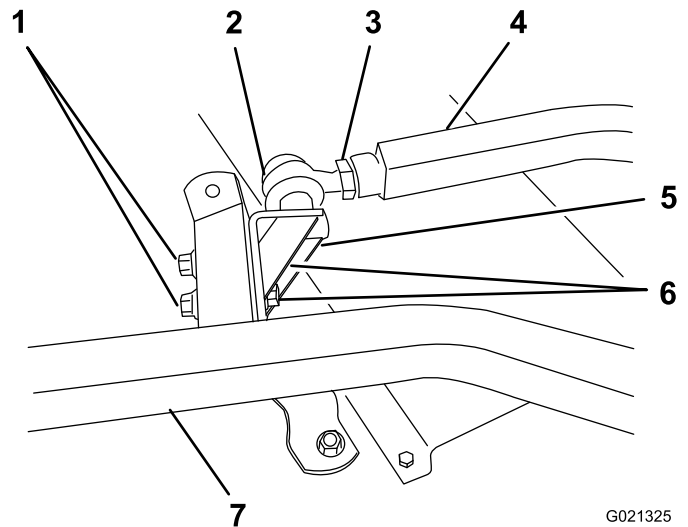

Figure 23
6. Have another person push down on the left push arm while you remove the capscrows, flat washers, and locknuts securing the ball joint mount to the castor arm on the cutting unit (Figure 23). Now the helper can carefully allow the push arm to move upward, which will gradually release the 68 kg (150 pounds) of spring load
5. Have another person carefully push down on the left push arm until the holes in the ball joint mount line up with the holes in the castor arm (Figure 23). Immediately slide a 4 x 4 inch block of wood between the top of the push arm and the underside of the chassis.